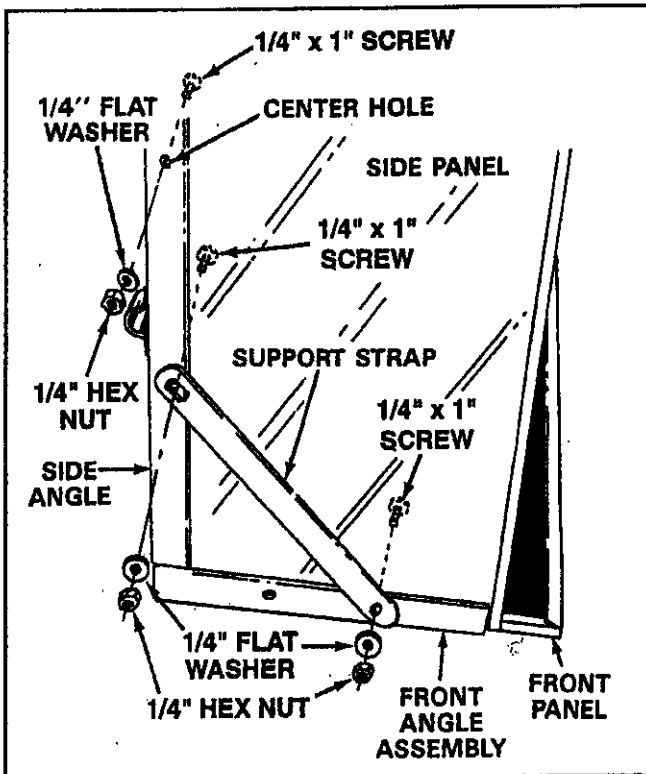

FIGURE 7
10. Place one side panel in position against a side angle and down on top of the front panel. Start one 1/4" x 1" screw through the center hole in side panel and side angle. Secure with hex nut and flat washer. See figure 7. Make only finger tight at this time.
11. Start one 1/4" x 1" screw through front hole on side panel and side angle. Start another 1/4" x 1" screw through top hole on side panel and front angle assembly. Next, place a support strap over these two screws and secure it with flat washers and hex nuts, making only finger tight at this time. See figure 7.